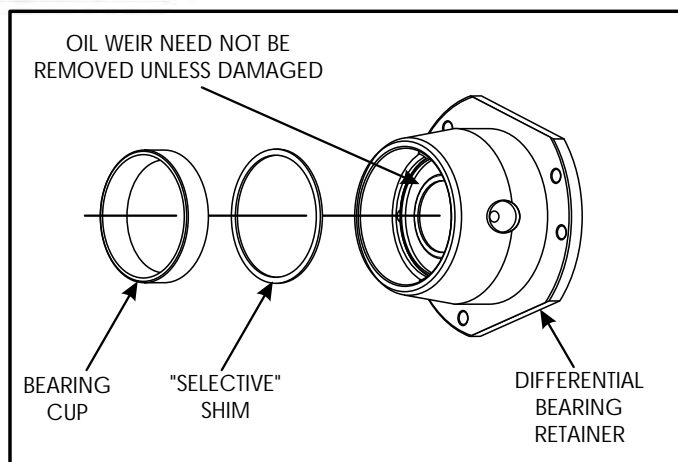

Figure 158
1. The shim behind bearing cone in differential bearing retainer is the selective shim used to set the differential preload (See Figure 158).
12. Install the proper shim combination, depending on end play reading that you obtained, into the bearing retainer, and once again install bearing cup using the press (See Figures 158 and 159).